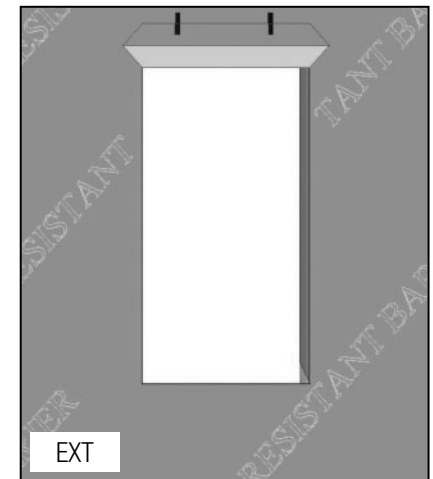

FIG. 7
- G) From the exterior, cut the top of the WRB as shown to form a flap. (Fig. 7)
- H) Temporarily tape this top flap up. (Fig. 7)